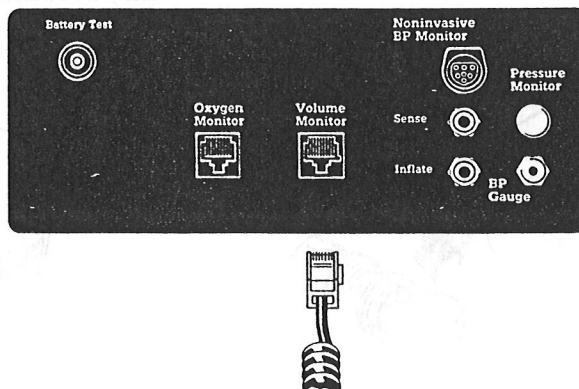

Figure 2-11
1. Insert the sensor cable plug into the receptacle marked "Volume Monitor" on the anesthesia machine's patient interface panel. (See figure 2-11.)